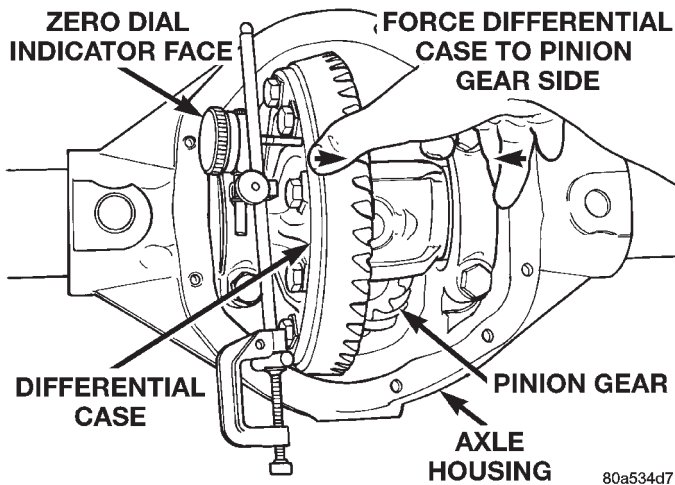

Fig. 78 Hold Differential Case and Zero Dial Indicator
(21) Push and hold differential case toward pinion gear (Fig. 78).
(22) Zero dial indicator face to pointer (Fig. 78).